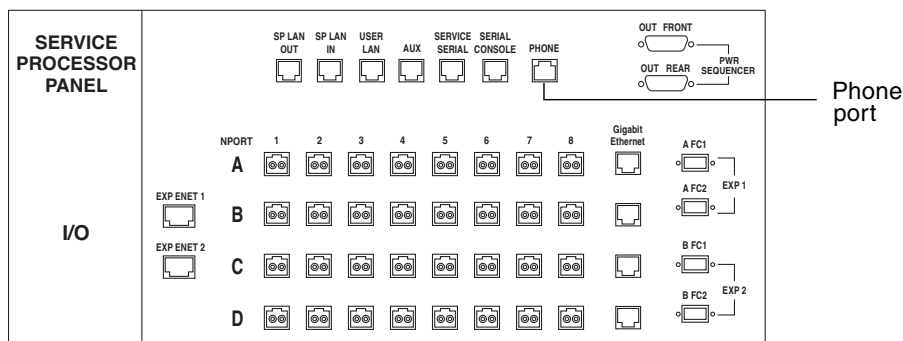

FIGURE 2-22 Remote Response Service Connection
1. **Connect a dedicated analog telephone line with dial-out and dial-in capability. Connect the telephone line to the Phone port on the service panel of the base cabinet (FIGURE 2-22).**